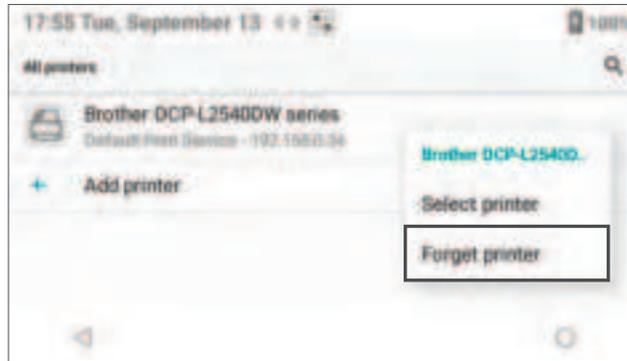

Figure 86: Remove Printer
- To remove an existing printer, select and hold the desired printer and then select **Forget printer** (Figure 86).